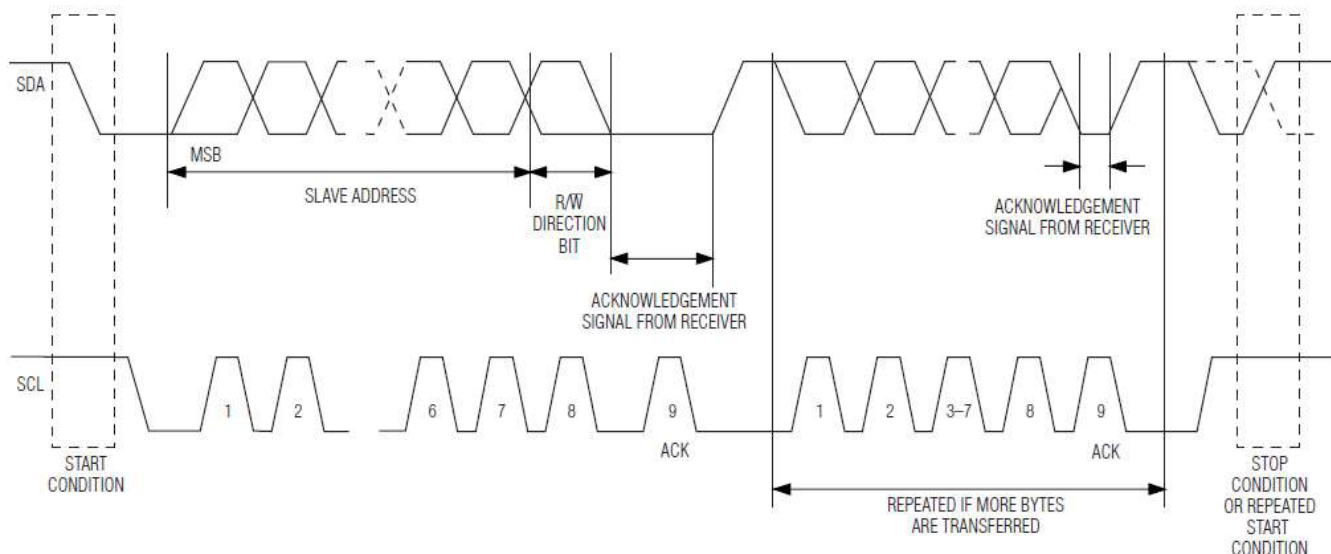

Figure 6 . 2-Wire Data Transfer Protocol
Connections to the bus are made through MOD_DEF2 and MOD_DEF1. Timing diagrams for the 2-wire serial port can be found in Figures 6. Within the bus specifications, a standard mode (100kHz clock rate) and a fast mode (400kHz clock rate) are defined. The Module works in both modes.
- **Data valid:** The state of the data line represents valid data when, after a START condition, the data line is stable for the duration of the high period of the clock signal. The data on the line can be changed during the low period of the clock signal. There is one clock pulse per bit of data. Figures 6 detail how data transfer is accomplished on the 2-wire bus.
- **START Condition:** A high-to-low transition of MOD_DEF2 with MOD_DEF1 high is a START condition that must precede any other command. See the timing diagrams in Figures 6 for further details.